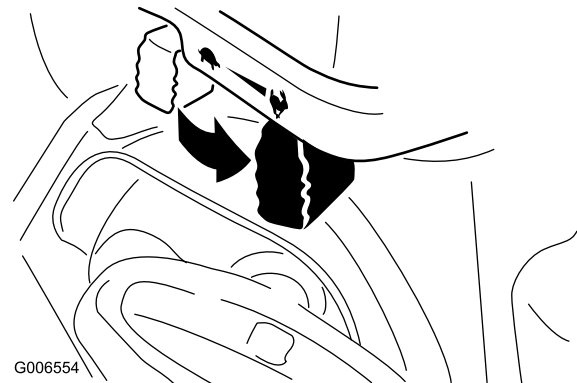

Figure 24
4. Firmly push in the primer with your thumb 2 times (15°F or -9°C or above) or 4 times (below 15°F or -9°C), holding the primer in for a second before releasing it each time (Figure 24).
6. Move the throttle to the Fast position (Figure 24).